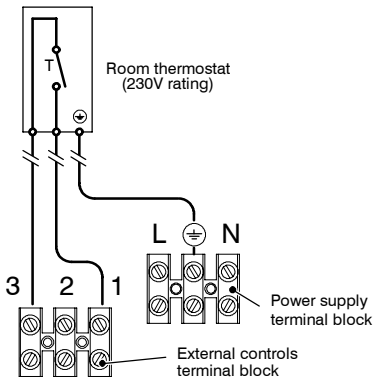
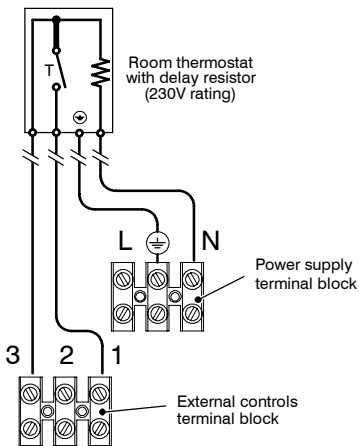

Fig. 6.13
Fig. 6.14
- 8 Connect the room thermostat between terminals 1 and 3 as shown in Fig. 6.13 or Fig. 6.14.